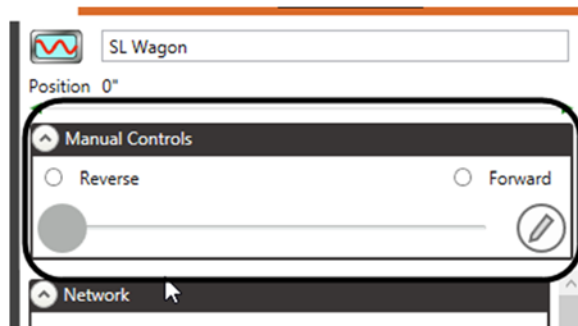

Figure 116
3. In the **Stagehand Editing Pane** on the right side of the screen, locate the **Manual Controls** section (Figure 116).